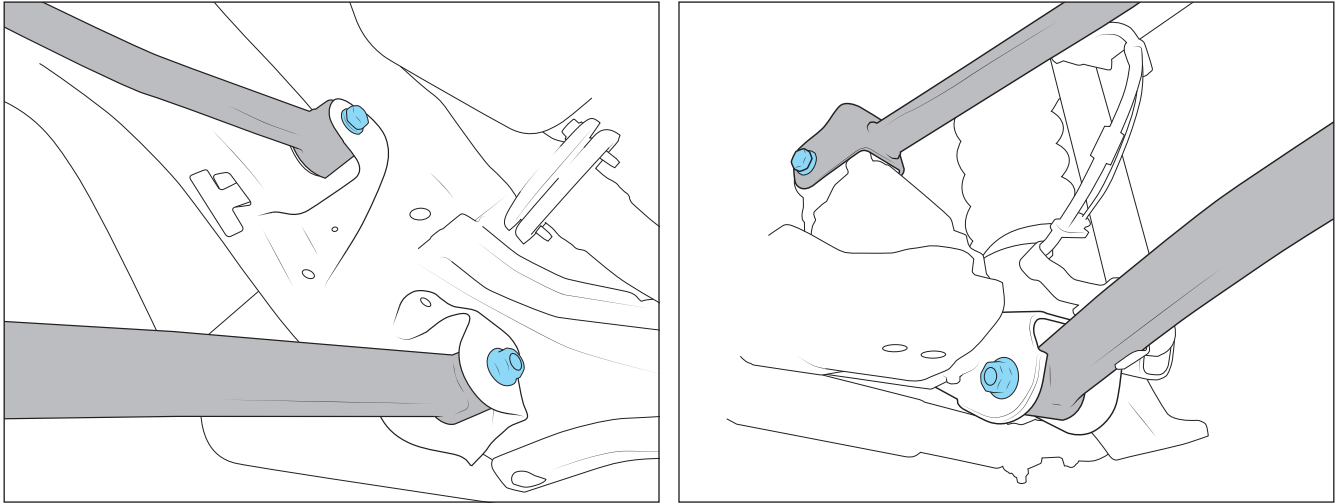

Figure 11
3. Loosen but DO NOT REMOVE all 8 control arm bolts (fig. 11).